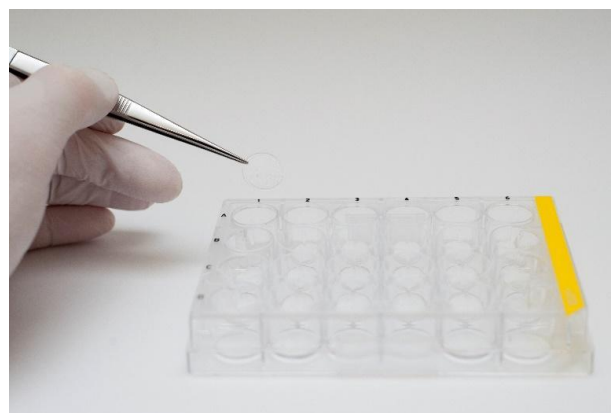
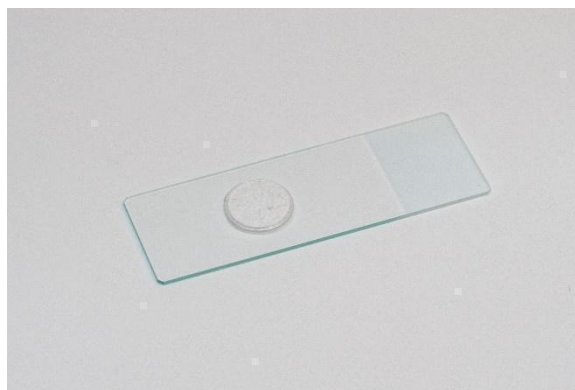

Figure 1. Gelacell™ scaffolds incorporated in the well plate.
Figure 9. Fix the Gelacell™ discs using mounting media for imaging.
Gelacell™ is a unique, 3D microfibrinous scaffold specifically engineered for advanced in vitro 3D cell culture and tissue engineering applications. Designed as a non-woven, highly porous scaffold, Gelacell™ offers exceptional biocompatibility and non-toxicity across a variety of cell types. Our specially integrated circular scaffolds in a well plate format (as shown in Figure 1) offer a straightforward visual imaging of cells directly from the well plate.
4. **Handling:** Employ fine-point tweezers, either straight or angled, to grip the discs (refer to Figure 1). Position the discs facing the scaffolds on a glass slide that contains one or two drops of mounting media. This step is crucial to secure the discs in place. (Figure 9).